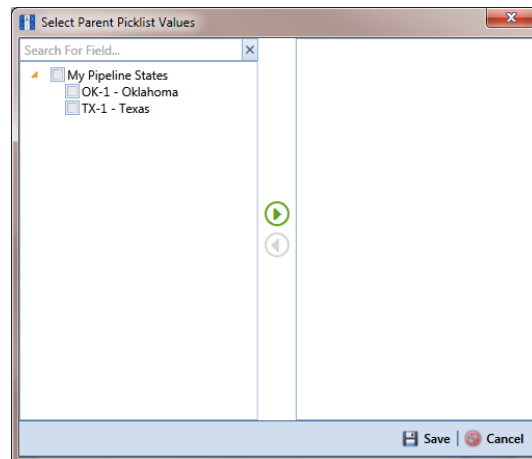

Figure 3-55. Select Parent Picklist Values
- c Click the  parent picklist button to open the dialog box labeled *Select Parent Picklist Values* (Figure 3-55).
- c Click the  parent picklist button to open the dialog box labeled *Select Parent Picklist Values* (Figure 3-55, page 104).
- 1)** Click the  parent picklist button to open the dialog box *Select Parent Picklist Values* (Figure 3-55, page 104).